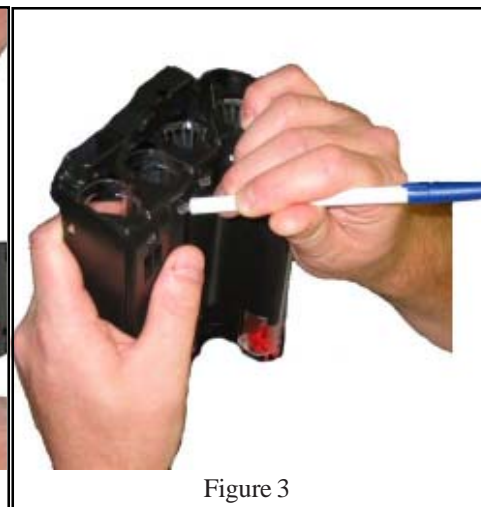

Figure 3
- 3) Turn to the back side of the spine. Each tube is held to the spine by a clip on the top, rear of the spine. Use a device, such as the back of a pen or pencil to pop the clip loose ( as shown in figure 3).